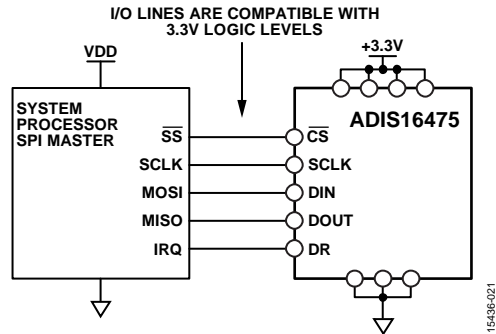

Figure 25. Electrical Connection Diagram
The SPI provides access to the user registers (see Table 8). Figure 25 shows the most common connections between the ADIS16475 and a SPI master device, which is often an embedded processor that has a SPI-compatible interface. In this example, the SPI master uses an interrupt service routine to collect data every time the data ready (DR) signal pulses.